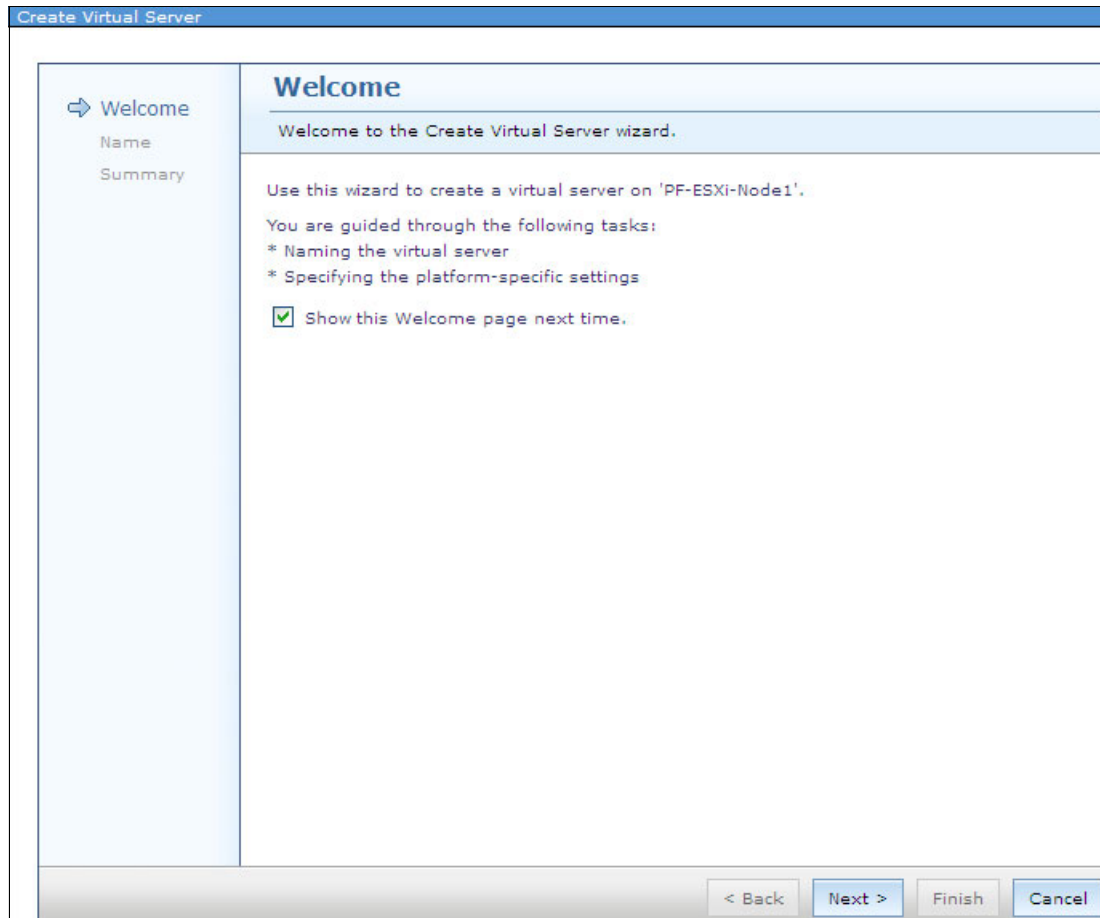

Figure 11-5 Create Virtual Server Welcome window
4. Click **Next** on the Welcome window as shown in Figure 11-5.